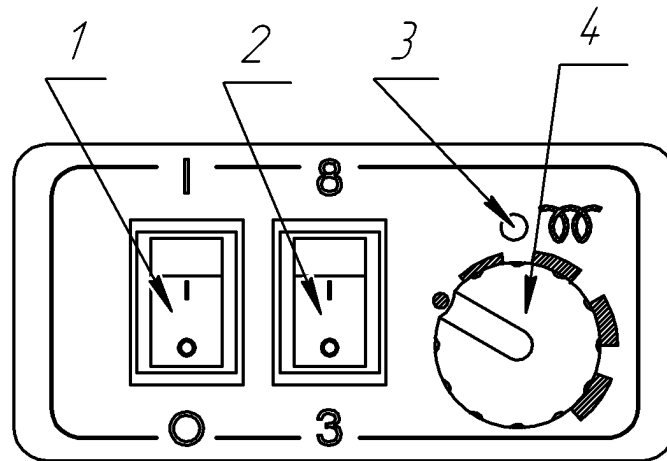

Figure 4 – Control panel faceplate
The faceplate of the panel has two key switches (1 and 2), LED (3), heat controller knob (4) – refer to Figure 4.